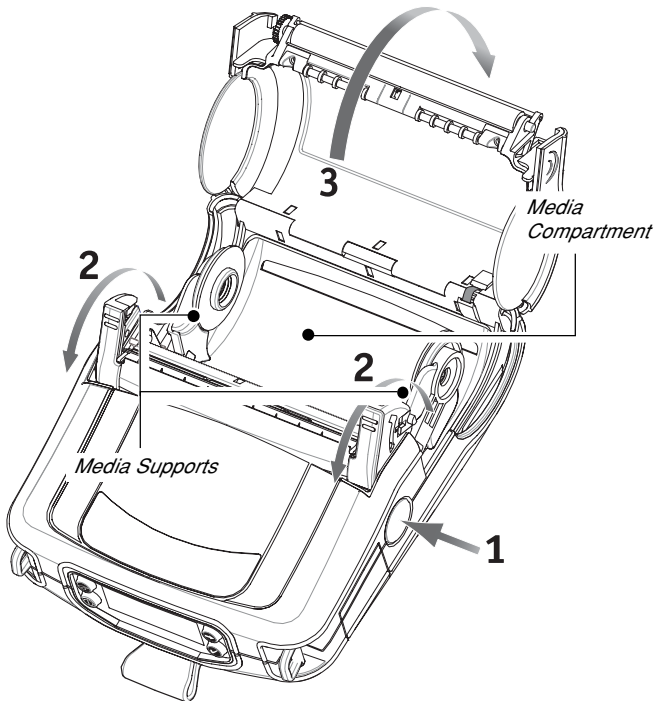

FIGURE 5: OPENING THE QL 420
1. **Open the printer:** Refer to Figure 5.